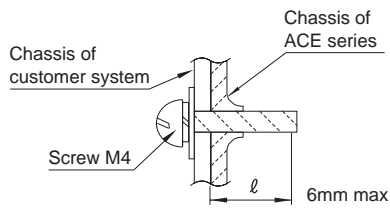

Fig.4.5 Mounting screw
■The screw should be inserted up to 6mm max from outside of the power supply to keep a distance between inside parts and an isolation(Fig.4.5).